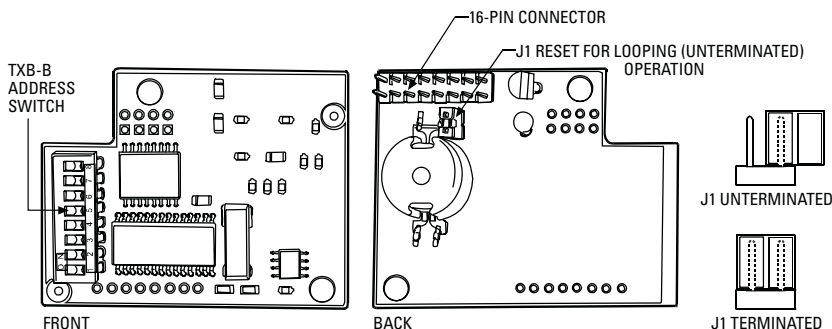

Figure 13. TXB-B Termination and DIP Switch
5. Set the J1 jumper on the TXB-B to the proper termination setting (refer to Figure 13). Note the following: